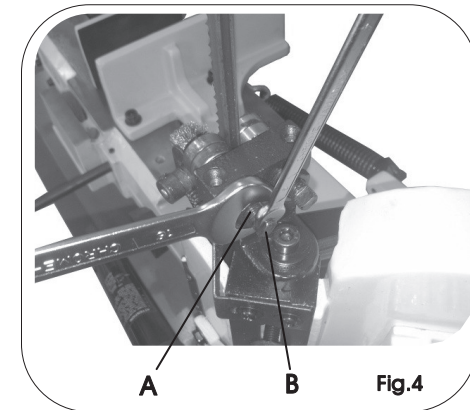

Fig.4
3. Loosen the nut (Fig.4,A) holding the eccentric shaft in position.
4. With a spanner turn the eccentric shaft (Fig.4,B) until there is a gap of about 0.001", you should just be able to slide a piece of paper between the gap.